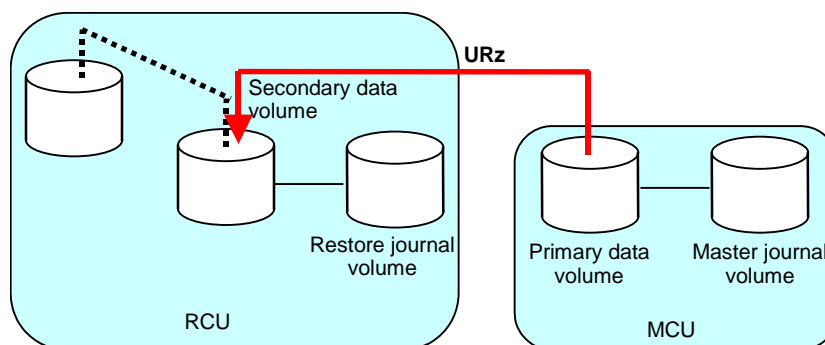

Figure 3-13 Restoring a Slz S-VOL - Step 2
2. Execute the Business Continuity Manager **YKSUSPND REVERSE** command on the URz pair to suspend the pair. After that, execute the **YKRESYNC REVERSE** command to reverse the copy direction and re-establish the pair (see Figure 3-13).